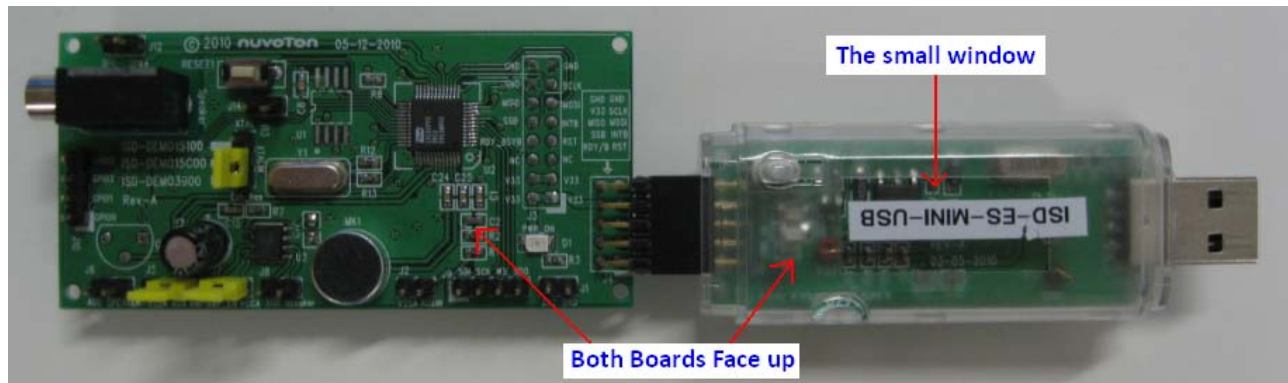

Figure 8 – connect ISD15D00 demo board with the USB dongle.
- o ISD-DEMO15100 + Mini USB board, shown in **Figure 8**.
Both combinations can achieve roughly the same functionalities. Combination shown in **Figure 8** is more recommended because of the much lower cost.